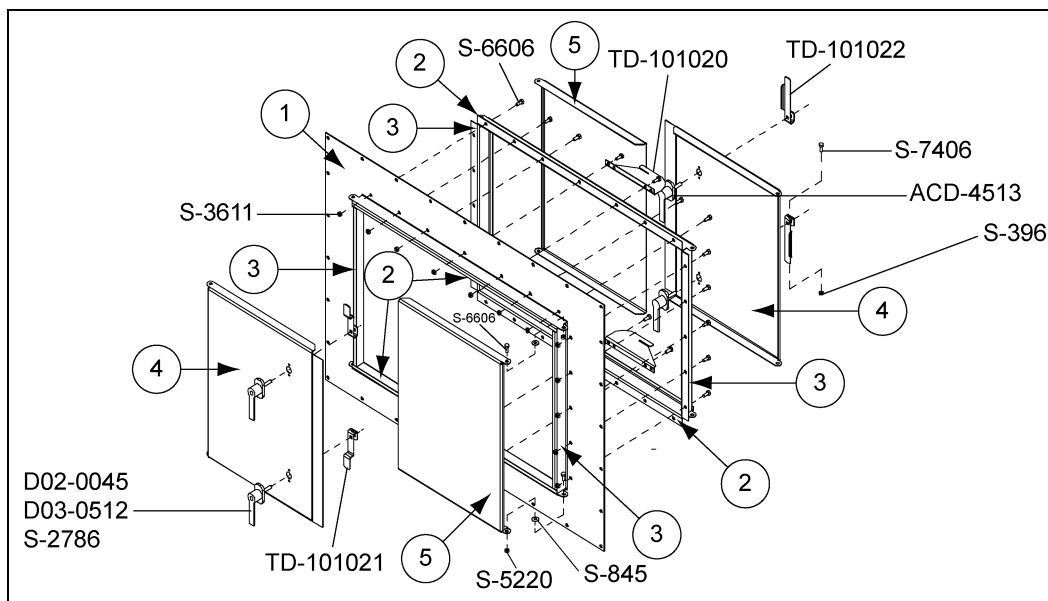

Figure 9S
5. With the nut and bolt supplied, attach the appropriate latches to the handles and lock them. (*Refer to Figure 9S.*) Adjust front latches (TD-101021) to catch the inside lip of the front Z-frames. Adjust rear latches (TD-101022) to fit the slot in the top and bottom catches attached to the rear Z-frames.